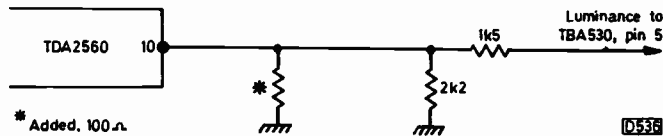

Fig. 1: Dr. Karailiev's method of stabilising the luminance output from the TDA2560 i.c.
put pin fell to 1.4V. So it was back to the TDA2560 luminance/chrominance signal processing i.c. The luminance input to this i.c. comes from an emitter-follower and was found to be correct, so the remaining thing to do was to try a replacement TDA2560. This is not available here at present however, so instead we decided to try connecting a 100Ω resistor from its luminance output pin (10) to chassis (see Fig. 1). This resulted in a first class picture.